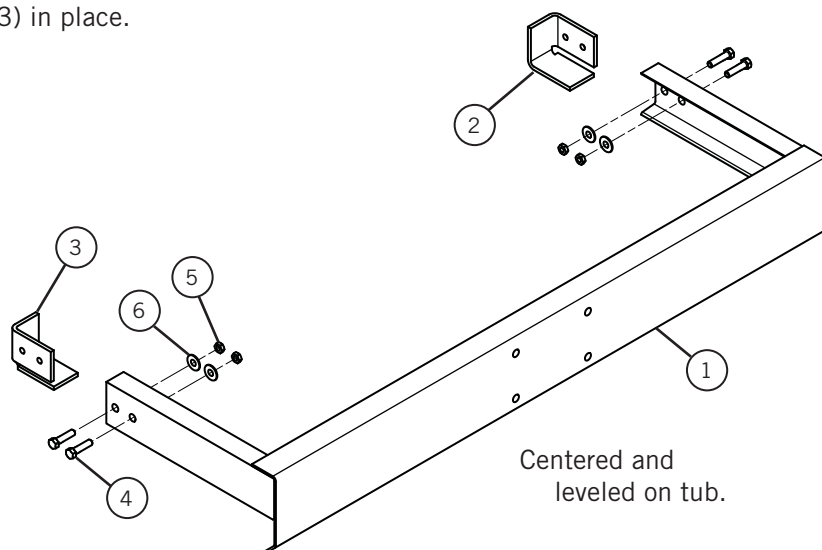

Figure 4
1) See Figure 4. Assemble the swing-arm mounting bracket (1) with a pair of mounting bracket (2 & 3) with provided fasteners. The mounting brackets (2 & 3) fit inside the swing-arm mounting bracket (1), with the mounting bracket (2 & 3) protruding from the swing-arm mounting bracket (1).
3) Disassemble the swing-arm mounting bracket (1) and weld the mounting bracket (2 & 3) in place.
4) See Figure 4. Assemble the swing-arm mounting bracket to the welded mounting brackets using provided fasteners.